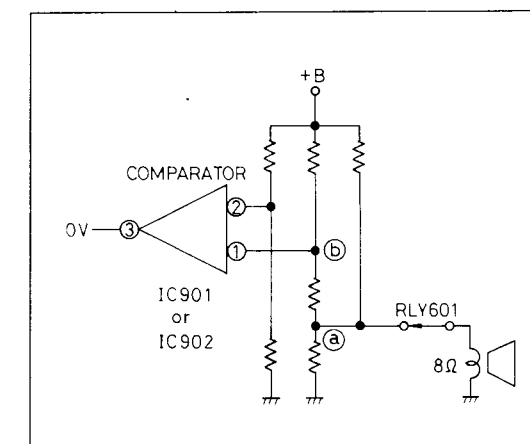

Fig. 3
2. If speakers with an impedance of  $8\Omega$  or more are to be connected to the left and right "MAIN" or "REMOTE" speaker terminals (Fig. 3).